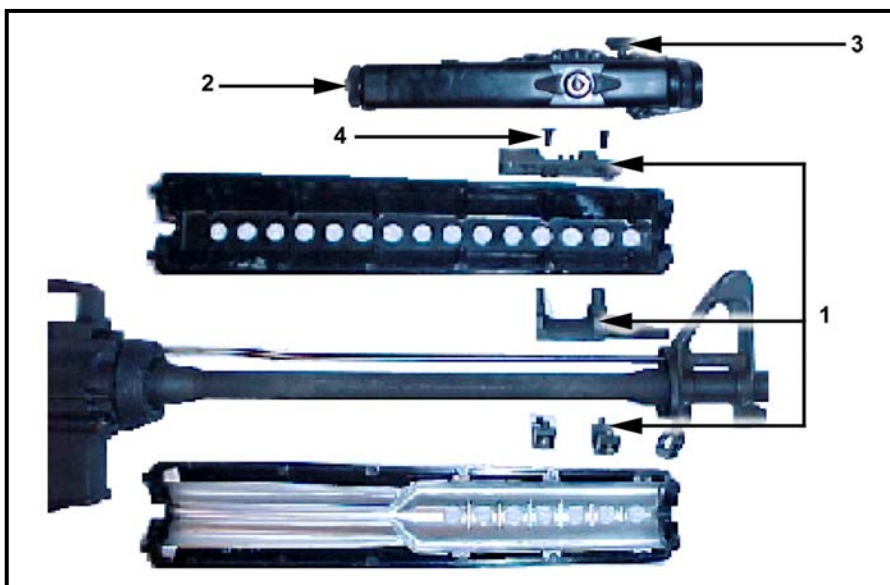

Figure 2-31. Mounting the AN/PEQ-2A to the M16A1/A2/A3 rifle and M4 carbine.
a. **M16A1/A2/A3 Rifle and M4 Carbine** (Figure 2-31). The armorer must install the bracket assembly (1). The AN/PEQ-2A (2) thumbscrew (3) is then aligned with the hole in the mounting rail (4) nearest the muzzle and tool tightened. The remote switch should be attached to the weapon where it is most convenient for the firer without interfering with the functioning of the weapon or hindering the firer's ability to fire the weapon. Retightening of the rail grabber and thumbscrew is recommended after a few rounds have been fired to ensure zero retention.